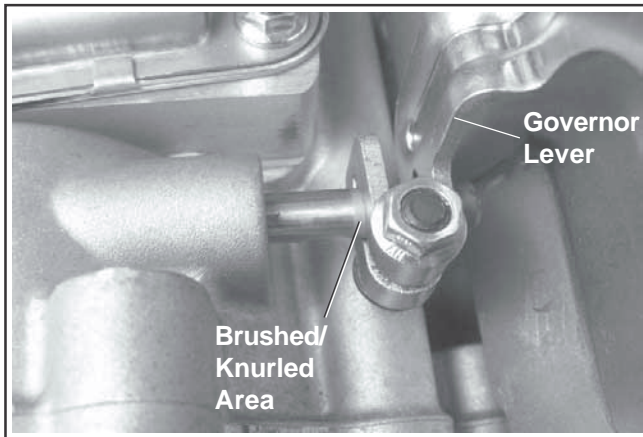

Figure 10-101. Brushed/Knurled Area.
1. Position the governor lever so the clamping area is inboard but completely on the knurled area of governor cross shaft. See Figure 10-101.